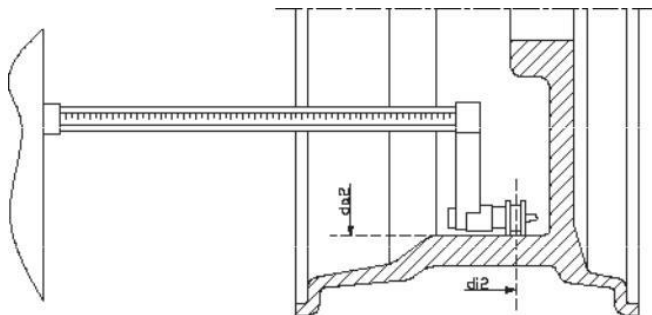

Figure F3.9 - Automatic acquisition of the external plane distance in the ALS1 and ALS2 Programme Type
6. Extract the Distance/Diameter sensor and place it on the rim corresponding to the external plane chosen to apply the balancing weight. See figure F3.9;